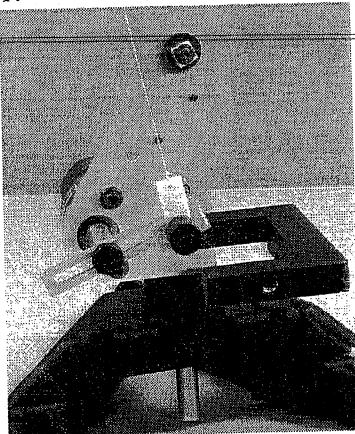

Figure 2: Driver Photogate
1. Mount the driver on a rod base and attach a photogate to the driver as shown in Figure 2.